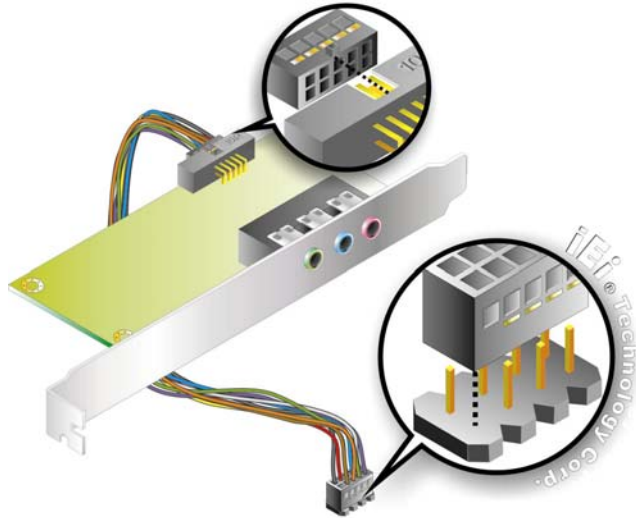

Figure 5-16: 5.1 Channel Audio Kit
- Step 3: Align pin 1.** Align pin 1 on the onboard connector with pin 1 on the audio kit cable connector. Pin 1 on the audio kit cable connector is indicated with a white dot. See **Figure 5-16**.